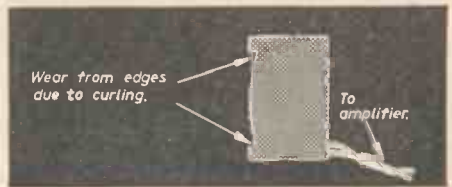

Fig. 4.—Side view of head, showing wear.
across the head, the pole pieces will have become worn down to AB. At this point, the head is at its most efficient. There is no leakage across the parallel faces of the pole pieces, as they have been worn away, and all the flux developed is concentrated in the tape. Any further wear, however, causes the gap to enlarge (CD) with a consequent fall off of frequency response. In tension, the tape tends to curl slightly and the wear becomes as shown in Fig. 4. It is easily detected by means of a fingernail, which can be made to catch in the shoulder. If the shoulder is such that a fingernail